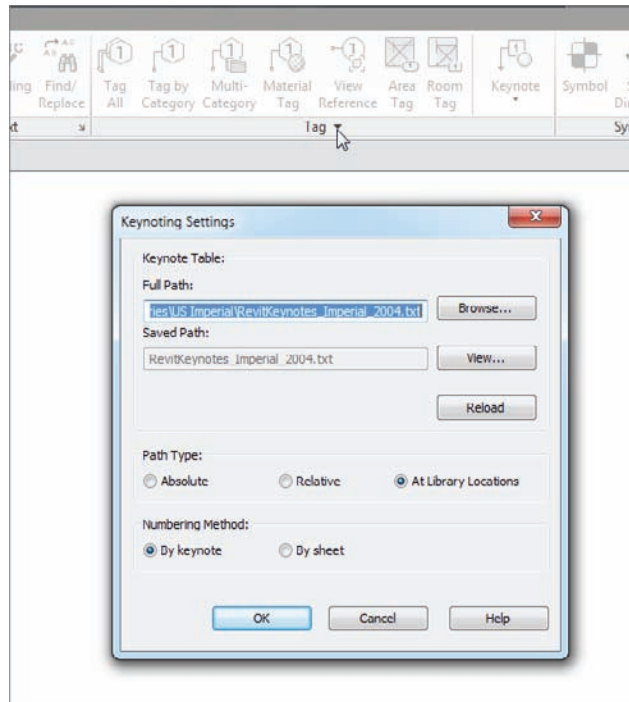

FIGURE 11.92 Mapping the Keynote.txt file
1. On the Annotate tab, click the small down arrow next to the word *Tag*, as shown in Figure 11.92.